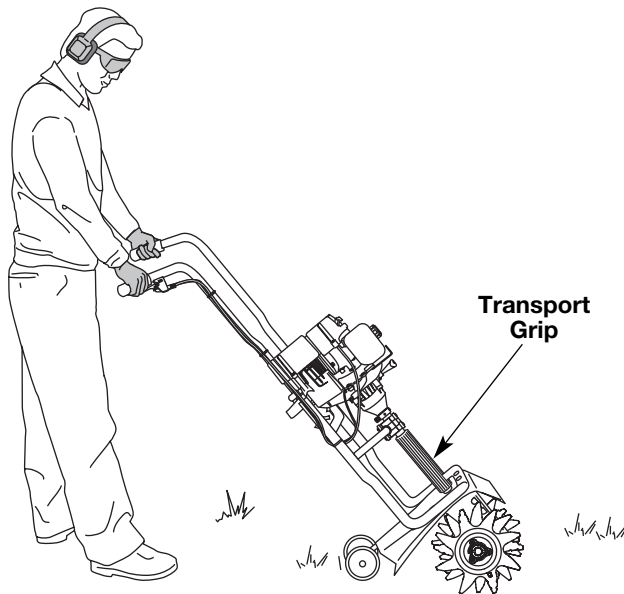

Fig. 10
WARNING: Avoid accidental starting. Make sure you are in the starting position when pulling the starter rope (Fig. 10). To avoid serious injury, the operator and unit must be in a stable position while starting.
4. Holding both of the handlebar grips firmly, slowly lower the cultivator until the tines make contact with the ground (Fig. 10).